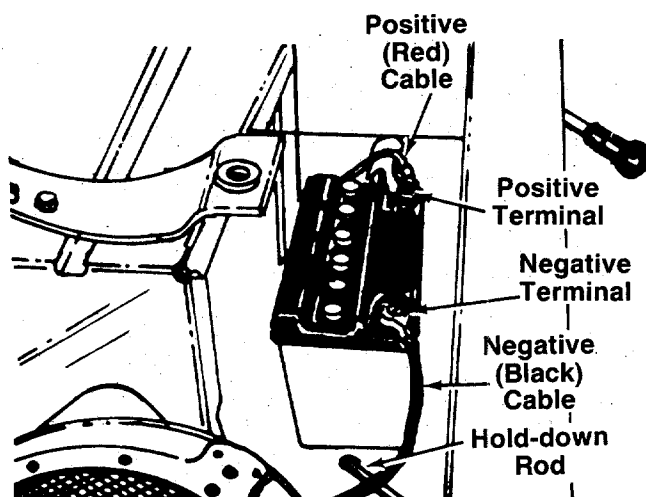

FIGURE 14.
1. Hook the battery hold-down rods into the holes in the frame. See figures 14 and 15.
2. Place the battery in the rider with the positive terminal to the front. The negative terminal goes to the rear of the unit. See figure 14.
4. Place the negative (heavy black) cable on the negative terminal. Secure with bolt, nut and lock washer provided with battery. See figure 14.